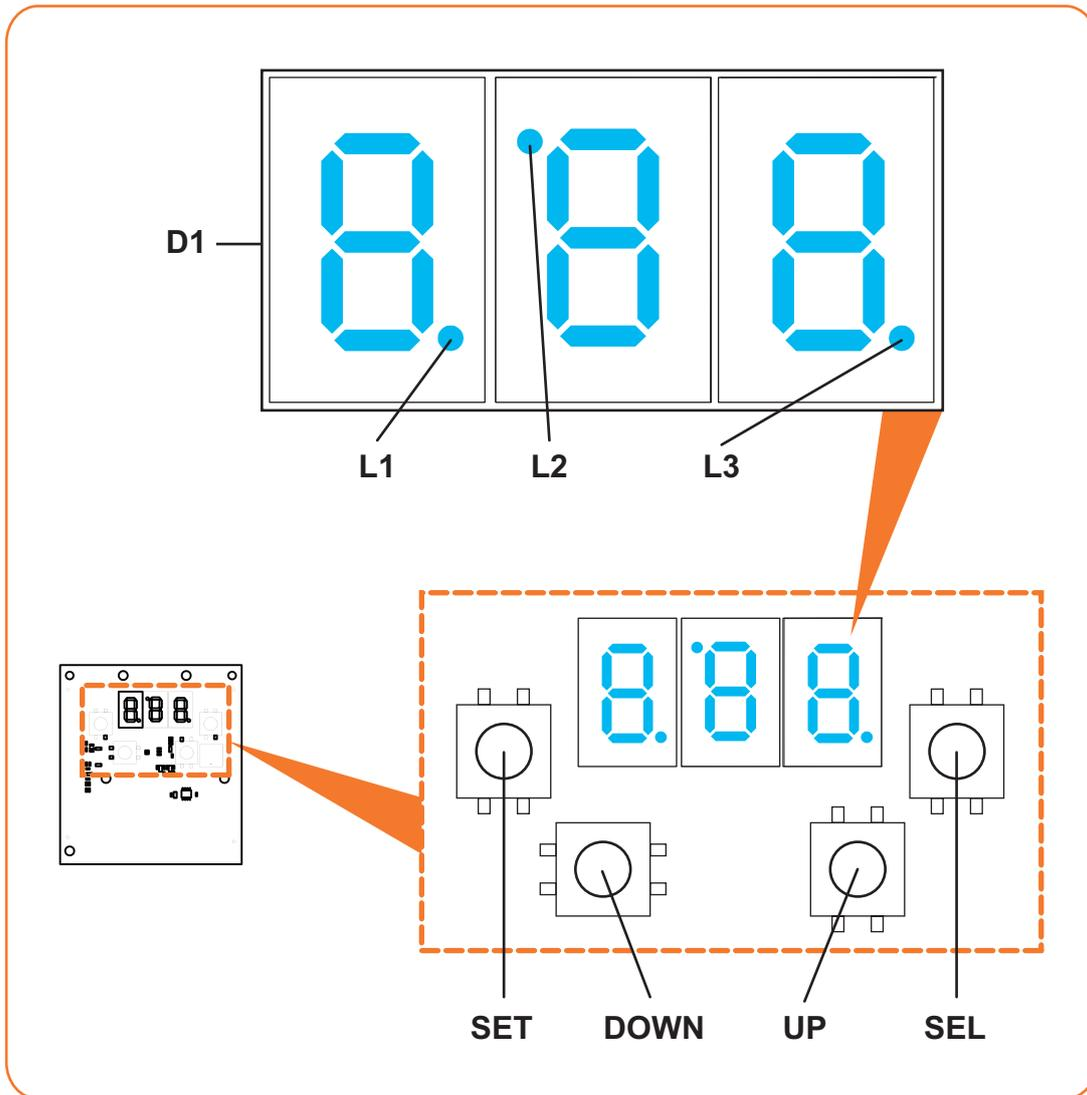

Fig. 5. User interface
The user interface (**Fig. 5 on page 13**) consists of the following elements:
When switching on the display (**D1 - Fig. 5 on page 13**) it performs a lamp-test (flashing of all segments and dots for 5 seconds).
- LED **L2** (**Fig. 5 on page 13**) is off if a positive blast chilling cycle was selected, or is on if a negative blast chilling cycle was selected;
- pressing the **UP** key determines the displaying (**D1- Fig. 5 on page 13**) of the temperature measured by the cold room probe for a duration of 5 seconds;
1. Press the **SEL** key until the display shows (**D1 - Fig. 5 on page 13**) the positive blast chilling cycle (display of P13 parameter, default +3 °C) or negative blast chilling cycle (display of P14 parameter, default -18 °C).